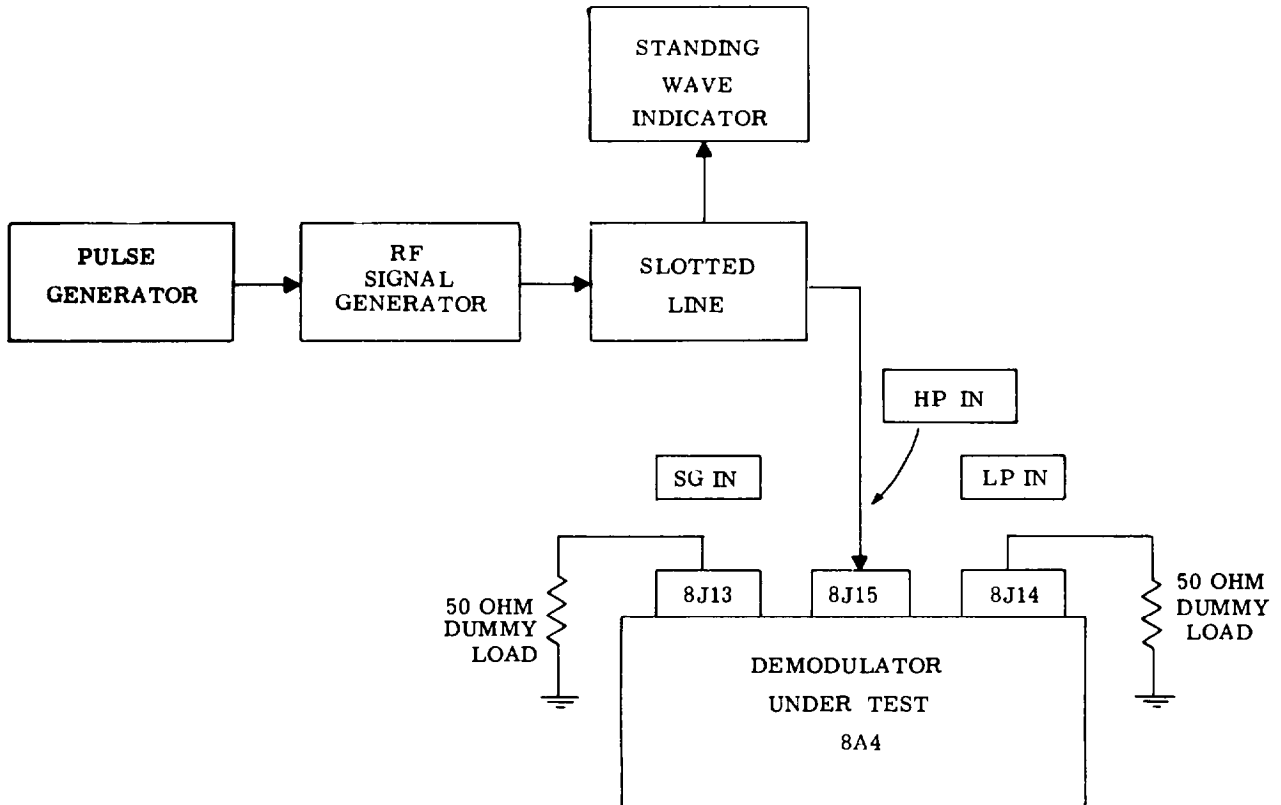

Figure 5-17. Demodulator Assembly 8A4, VSWR Test Setup
Step 2. Connect demodulator and test equipment as shown in figure 5-17. Check VSWR alignment of SG IN, LP IN, and HP IN connectors with signal frequencies from 900 to 1250 mHz at 50 mHz intervals. Make certain that unused connectors are terminated with a 50-ohm dummy load. VSWR of all connectors at all frequencies should be less than 1.4:1 (3.0 db).